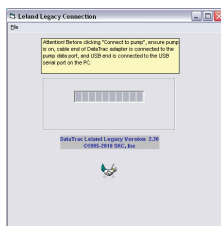

Figure 2A. Successful Pump-PC Communication
5. If connection is successful, the Leland Legacy Connection window will display a shaking hands icon (Figure 2A). Proceed to Step 6. If connection is unsuccessful, an error window will display (see box and Figure 2B on page 5).
5. The Leland Legacy Connection window will display a shaking hands icon indicating a successful connection (*Figure 2A*). Proceed to Step 6.